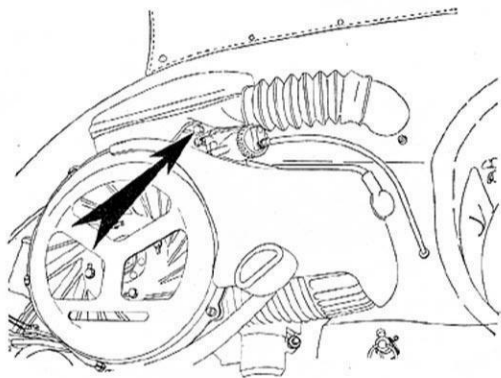

Fig. 13 - Screw securing the air cleaner
1) - Remove the rubber bellows connecting the air cleaner to the elbow pipe secured to the chassis, then slacken the clamp screw to release the air cleaner from the carburettor (see Fig. 13). Undo the three screws, remove the